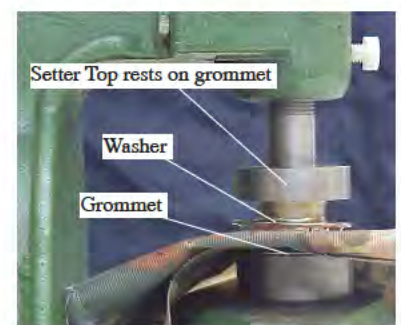

Figure 10. Setting Grommet
3. **Coarse Adjustment.** Raise the moving head to its top position by turning the handle counterclockwise. Put your grommet on the bottom part of the setting die, with its neck facing up. Lay your fabric on top of the grommet with the grommet neck going through the hole. Put the washer on top of your fabric, with the grommet neck going through the washer too, as shown in Figure 10.
4. Rotate the Handle to the 1 or 2 o'clock position, and hold the handle in that position while unscrewing the setter top until it contacts the middle of the grommet as shown in Figure 10.